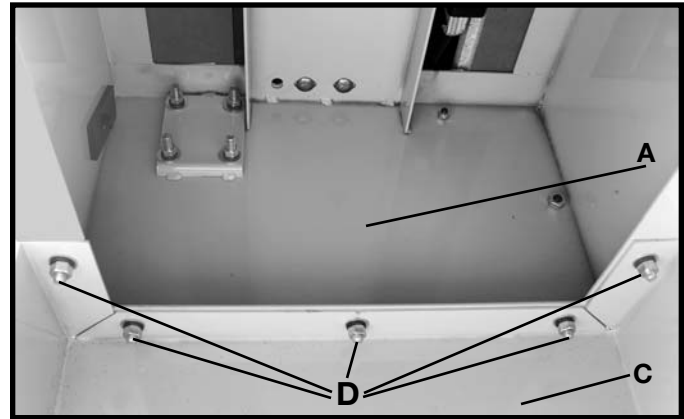

Fig. 3
1. Fasten each support leg (C) Fig. 3, to the base of the machine (A) with five 3/8-16 x 1" hex head screws, ten flat flatwashers, five lockwashers and hex nuts, (D) Fig. 3. Assemble flat flatwashers to screws, insert screws through holes in the machine base, then assemble flatwashers, then lockwashers, then hex nuts and tighten firmly.